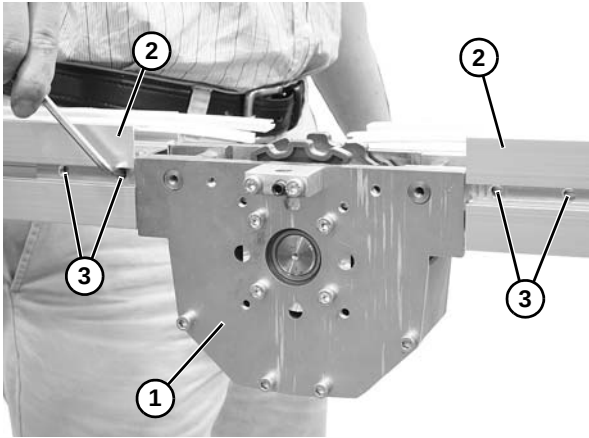

Figure 28
1. Install top running drive assembly (**Figure 28, item 1**) clamp plates into conveyor frame sections (**Figure 28, item 2**) by lining up clamp plates with slots in conveyor frame.
2. Secure with four set screws (**Figure 28, item 3**) on both sides of conveyor. Tighten all set screws 1/4 turn past contact with frame.